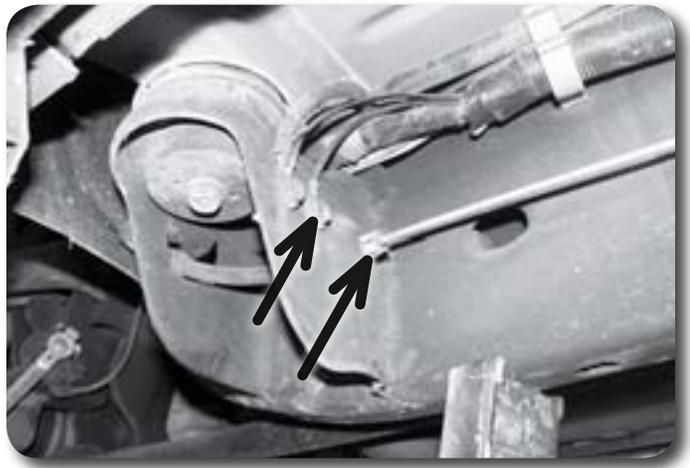

Figure 13
17. Remove the front half of the parking brake cable from the body mount. Compress the retaining tabs with pliers and push the cable through the hole Figure 13.
18. There is a ground wire(s) located next to the parking brake cable mounting hole Figure 13. Disconnect the wires from the mount.